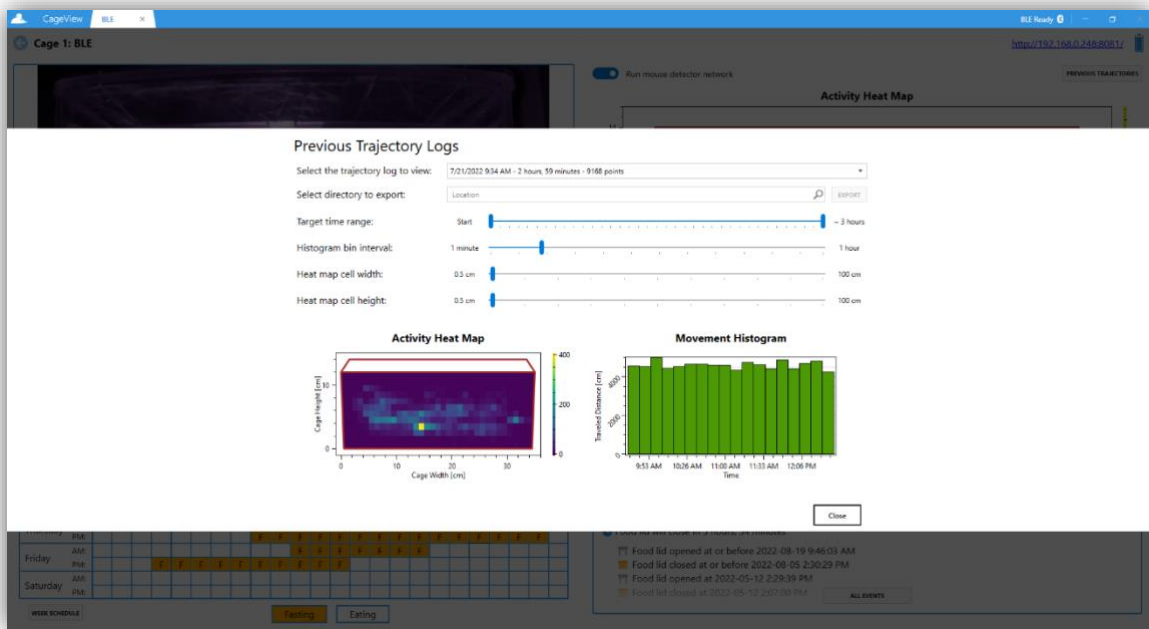

Figure 26. Trajectory logs history
5.3.5. Clicking the "**Previous Trajectories**" button will show the history of previously gathered mouse movement trajectories. The dialog presenting the trajectory logs history is shown in **Figure 26**. The previously stored trajectories can be chosen from the list at the top. Each trajectory log is presented by its date, duration, and count of points. If required, the metrics can be exported into .csv formats.